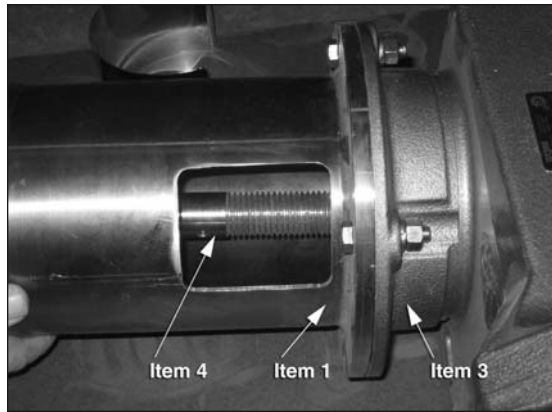

Figure 10
- Starting with the entire agitator shaft (Item 4) inside of the tank, slide the threaded end of the agitator shaft through the shell of the tank and into the housing (Item 1), making sure to align the key on the agitator shaft with the key slot on the hollow gearmotor (Item 3) output shaft. Stop pushing the agitator shaft through when the shoulder of the shaft pushes against the snap ring inside the gear reducer. (At this point, the shaft will not be able to be pushed farther without deforming the metal.) See Figures 10 and 11.